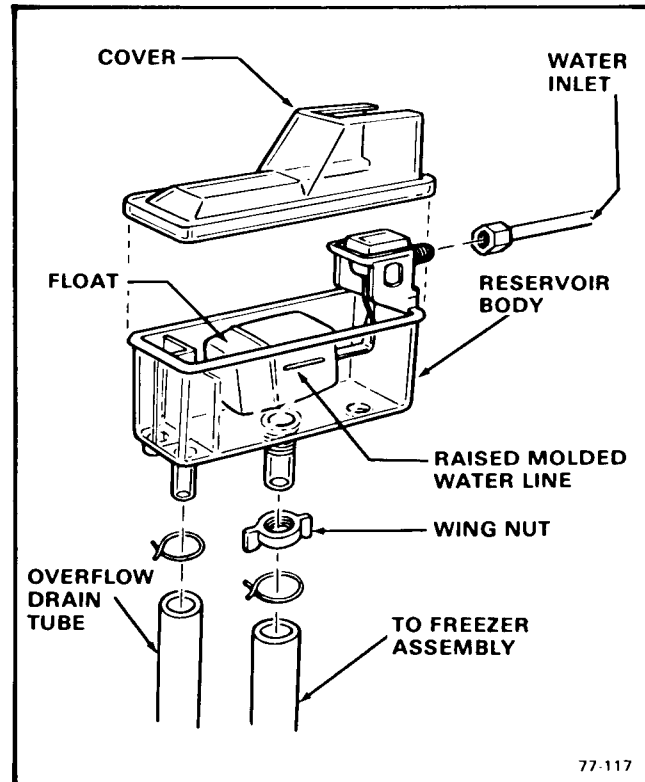

Figure 4-4. Removal of the Water Reservoir Assembly.
- To Remove the Water Reservoir Assembly, see Figure 4-4: